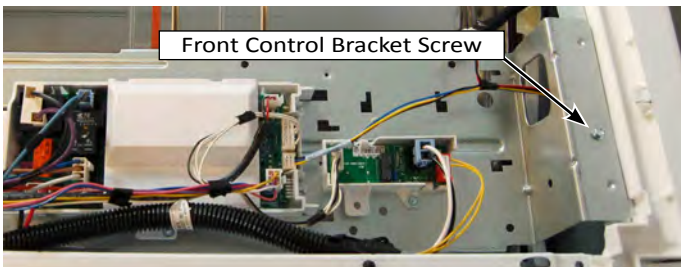

Figure 1
5. Remove front 1/4" hex-head screw securing the control bracket to the console bracket...or remove the entire control bracket (see Figure 1).